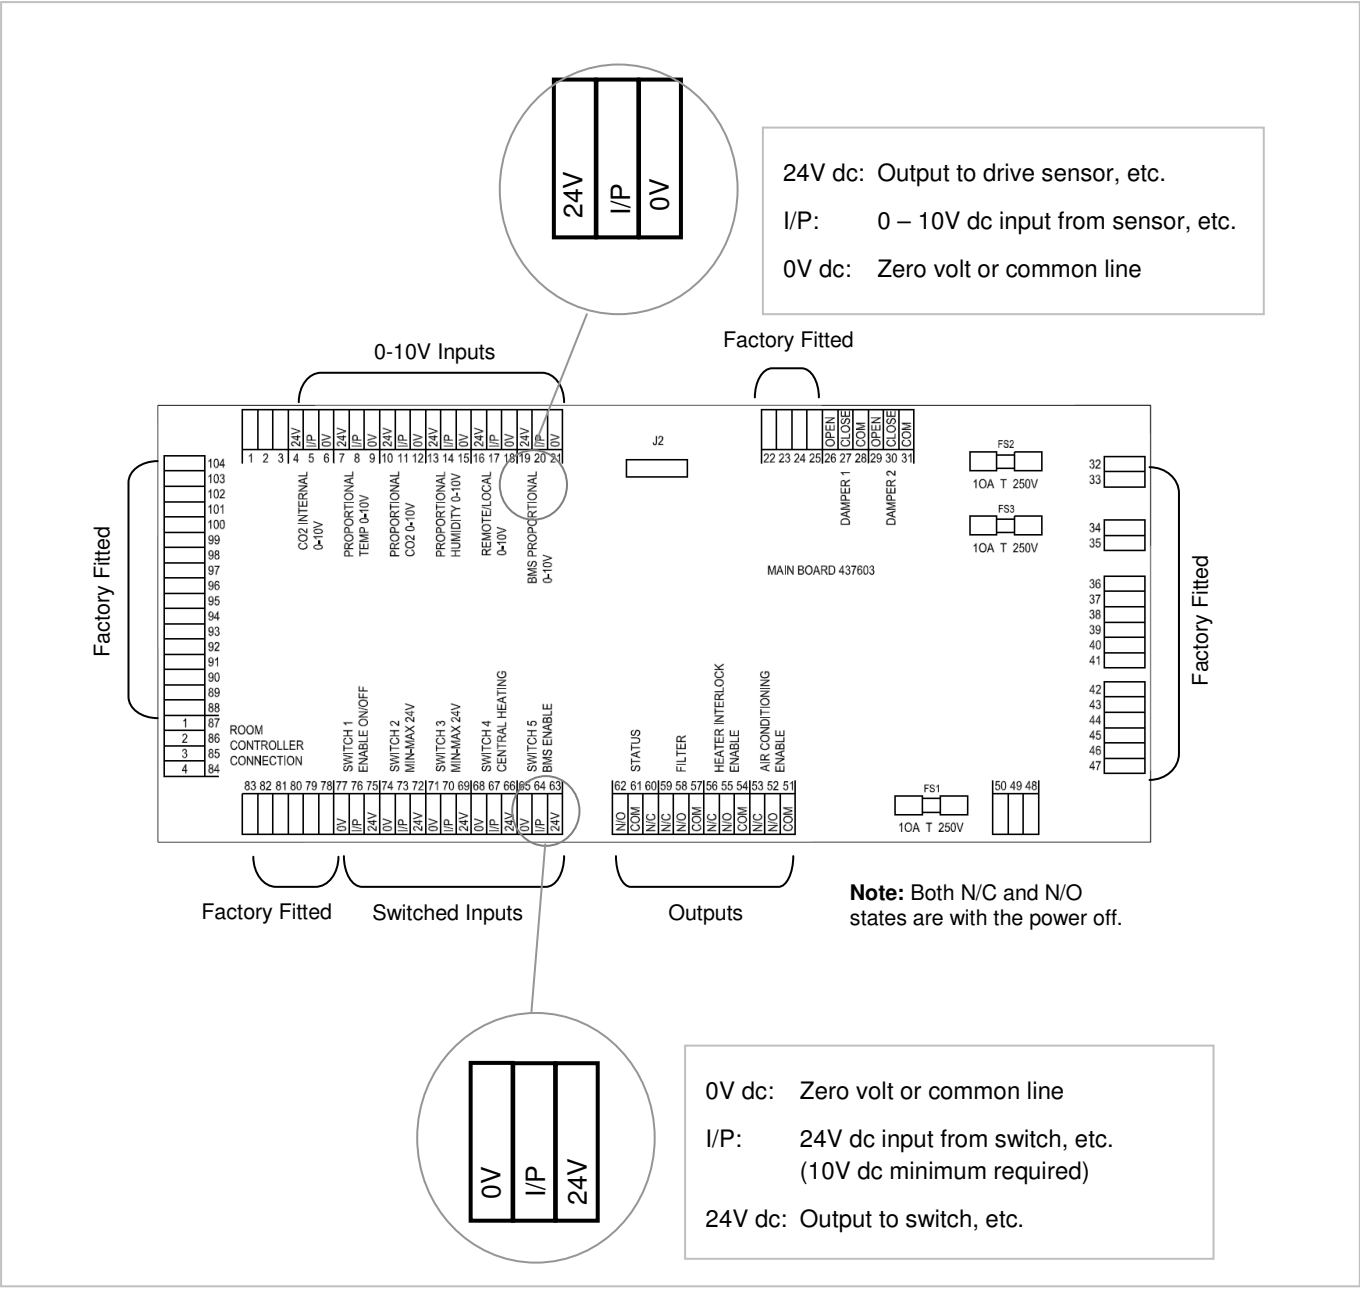

Figure 10: Main Controller PCB Terminal Connections
4. Connect pins 1-4 on the Commissioning Interface terminal block to the corresponding pins 1-4 on the Main Controller PCB, see *Figure 10: Main Controller PCB Terminal Connections*, i.e. connect Commissioning Interface pins 1 to 87, 2 to 86, 3 to 85 and 4 to 84.